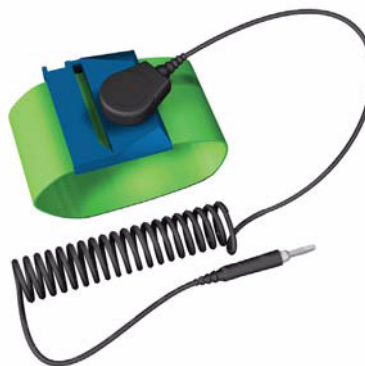

Figure 4. ESD Protection
2. Ensure that the DX8100 Series DVR and all of its components are protected against ESD. Before handling any electronic components, you should take steps to ground yourself properly so that any built-up static electric charges are dissipated away from the unit. The most effective method for combating ESD is to use a properly grounded wrist strap. Refer to Figure 4.